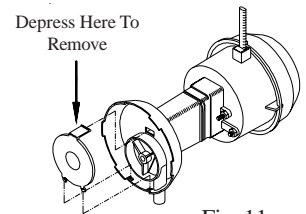

Fig. 11
- **Clean pump.** Cleaning the pump is necessary once a year at start-up. For your safety, turn unit off and unplug motor and pump. Remove the pump from the mount slot. Remove the base of the pump as shown in Fig. 11. Clean the pump and turn the impeller to ensure free operation. Remove the pump spout and check for any blockage. After cleaning, reinstall the base onto the pump. Reattach the pump to the mount in the cooler using the plastic retainer to ensure that the pump will not overturn. Do not forget to replace the spout and water delivery tube onto the pump outlet. The pump has an automatic reset thermal protection.